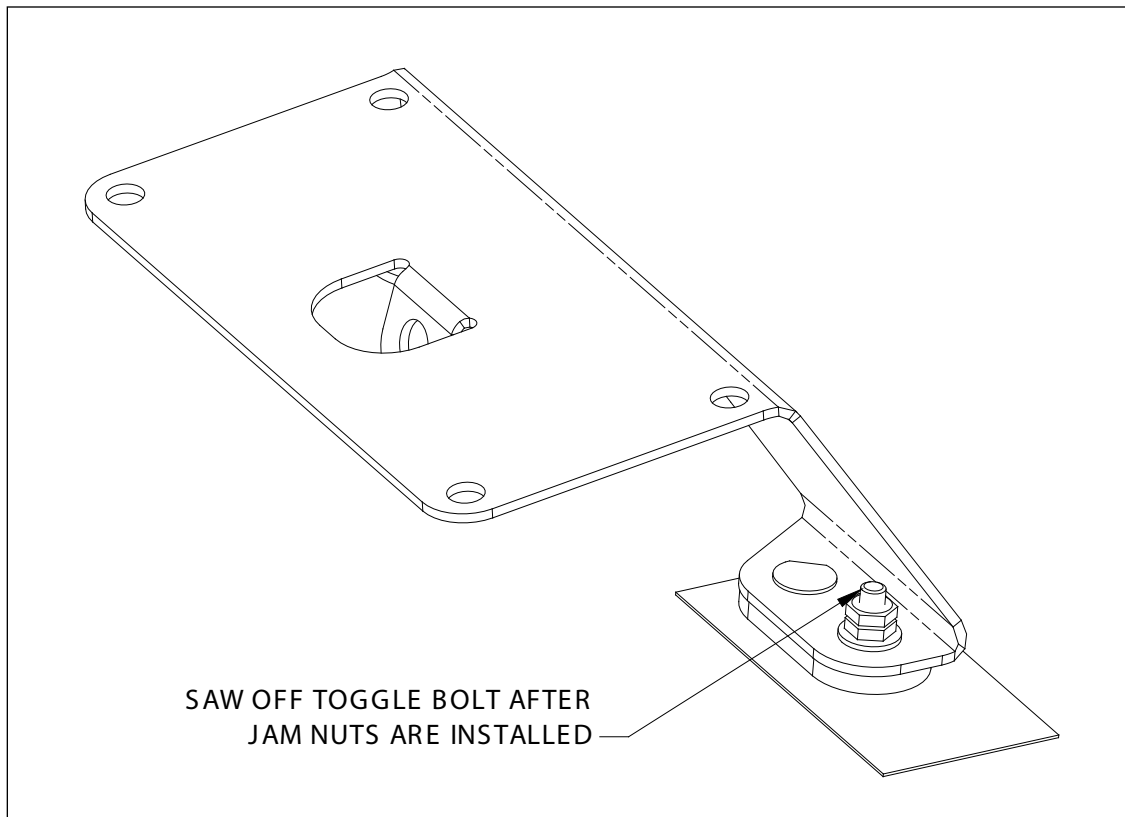

Figure 4
- M. Saw off the toggle bolts above the jam nuts. See Figure 4. NOTE: It may be necessary to use cardboard or some other material to protect the bracket while sawing off the toggle bolts.